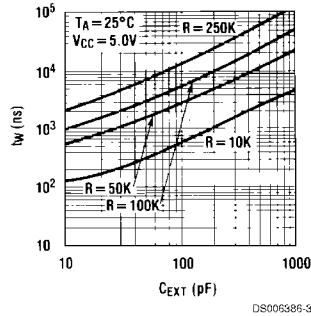

FIGURE 3.
5. For  $C_X < 1000$  pF see *Figure 3* for  $T_W$  vs  $C_X$  family curves with  $R_X$  as a parameter: